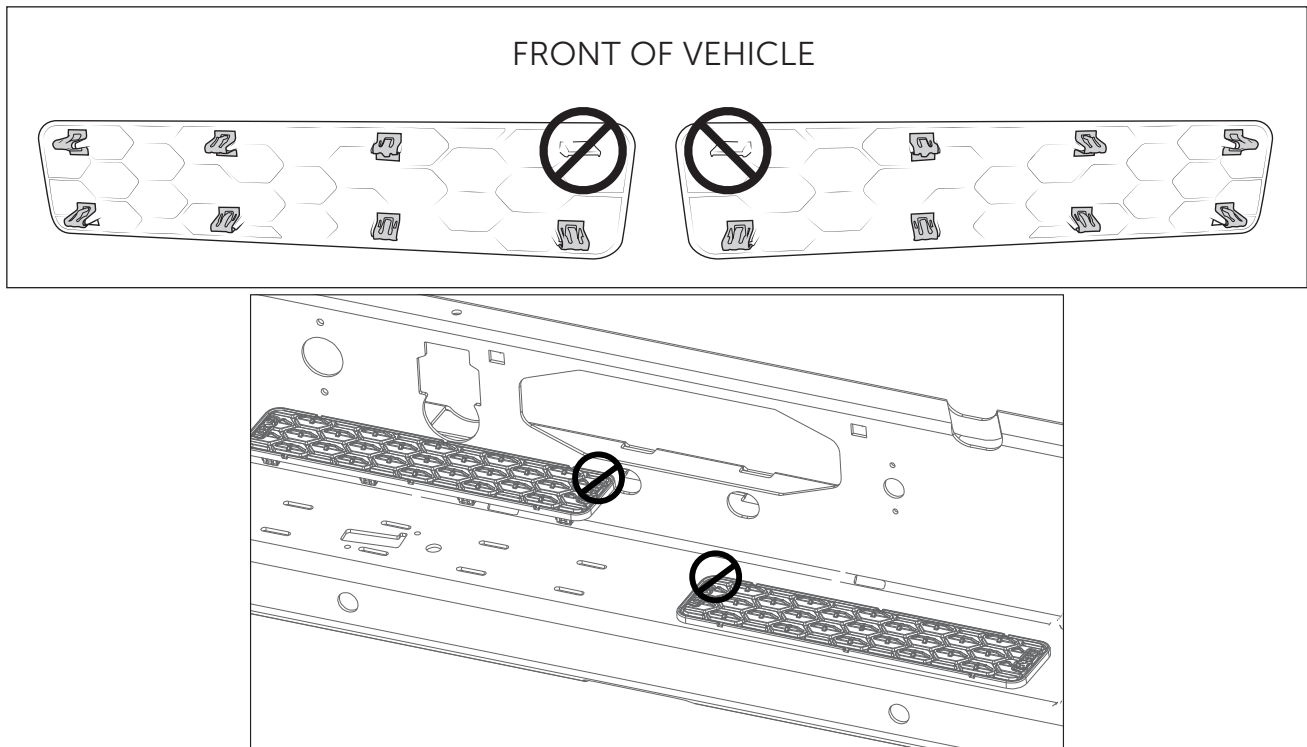

Figure 26
- A. Install metal retention clips onto seven of the tabs on the back side of each Bumper Step Pad as shown (fig. 26). NOTE: The INBOARD and vehicle FORWARD tabs DO NOT get retention clips. Make sure they are fully seated onto the backside of the step pad.